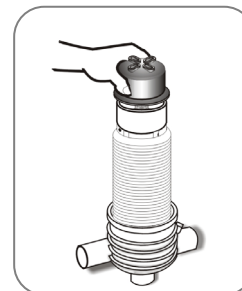

Figure 8
9. Put on the tightening cylinder and tighten the butterfly-nut. (Figure 8, 9)